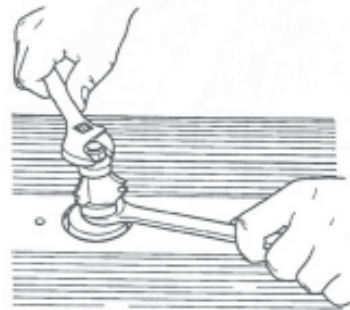

Figure C-91
15. Install another rub collar onto the arbor. Then place the tongue washer on the arbor with its "tongue" in the arbor's slot. Finally, thread the hex back on the arbor as shown in figure C-91.